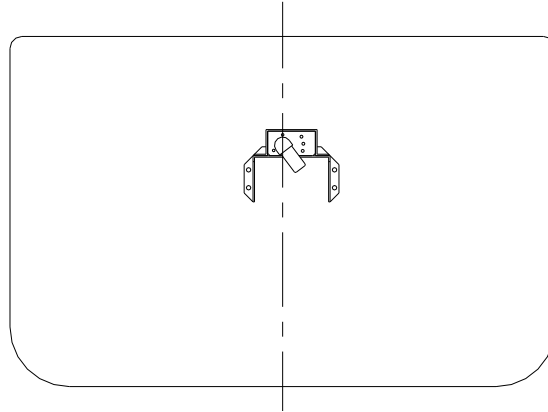

Figure 18
5. Center the Top Mount pivot boxes on the pivot mounts and bolt them in place, using the 1/2 x 1-1/2" bolts supplied. The pivot pins should now be centered on the face of the trailer. Refer to figure 18.